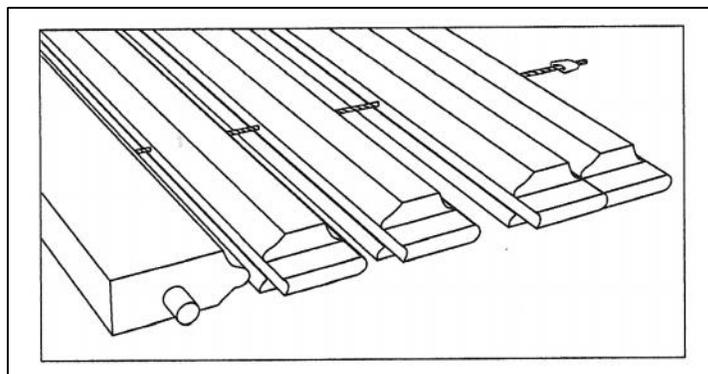

figure 5
- Use a 3/8" rabbeting bit or stacked dado blade in a table saw to remove material on each slat to leave a 3/8" deep, 5/16" wide tenon (as shown in figure 5) that will be held in the 3/8" wide by 7/16" deep groove.
- The lead strip length is equal to the distance between the two side panels that support the tambour. The lead strip is held in the 7/16" groove by dowels. Using a doweling jig for accuracy, drill a 3/8" diameter hole, 1-1/8" deep in each end of the lead strip. The dowel holes need to be aligned directly in-line with the tenons on the slats when the tambour is assembled. Glue a 3/8" diameter by 1-1/2" long dowel in each hole as shown in figure 5.